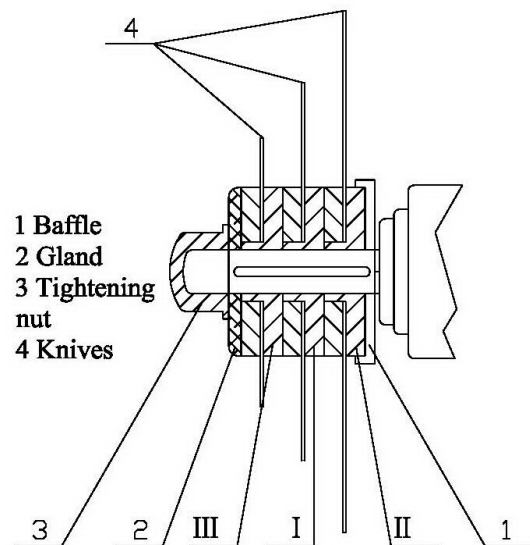

Fig. 4-6 Cutting set (6 pieces)
1. Installation of cutter set consisting of 6 knives in 3 groups. (See Fig.4-6)